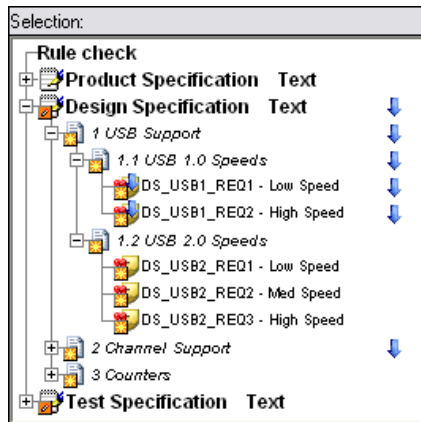

Figure 3-11. Derived and Non-Derived Requirements
1. Expand the **Design Specification** document in the Selection column to display the derived requirements, DS_USB1_REQ1 and DS_USB1_REQ2, and the non-derived requirements, DS_USB2_REQ1, DS_USB2_REQ2, and DS_USB2_REQ3, as shown in Figure 3-11. Requirements Gateway displays different icons for derived and non-derived requirements and displays a navigation arrow icon to the right side of the requirement and all the parent elements of the requirement to indicate the derived requirements.